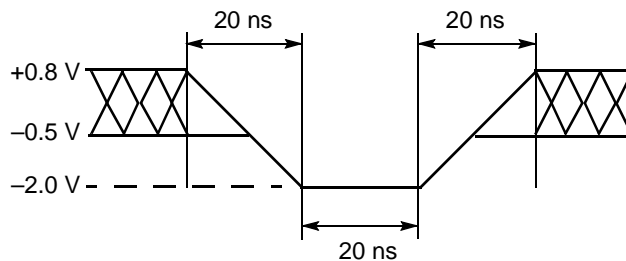
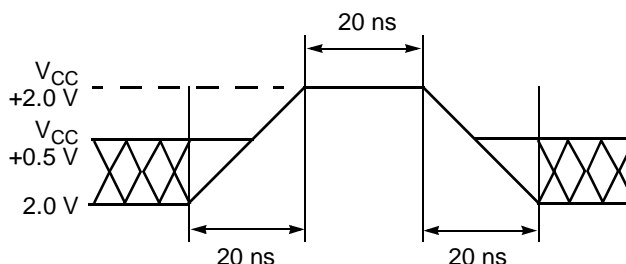

Figure 8. Maximum Negative Overshoot Waveform
Figure 9. Maximum Positive Overshoot Waveform
1. Minimum DC voltage on input or I/O pins is -0.5 V. During voltage transitions, input or I/O pins may overshoot V_{SS} to -2.0 V for periods of up to 20 ns. See Figure 8. Maximum DC voltage on input or I/O pins is $V_{CC} + 0.5$ V. During voltage transitions, input or I/O pins may overshoot to $V_{CC} + 2.0$ V for periods up to 20 ns. See Figure 9.
2. Minimum DC input voltage on pins A9, OE#, and RESET# is -0.5 V. During voltage transitions, A9, OE#, and RESET# may overshoot V_{SS} to -2.0 V for periods of up to 20 ns. See Figure 8. Maximum DC input voltage on pin A9 is +12.5 V which may overshoot to 14.0 V for periods up to 20 ns.